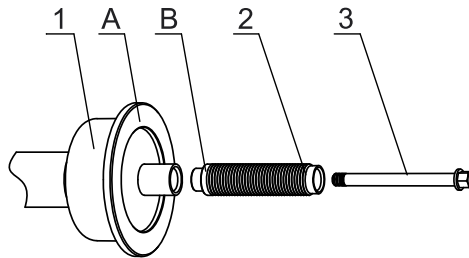

Figure 4.3 – Shaft assembling
4.2.3 Assemble shaft in accordance with Figure 4.3. Clean the machine spindle hole and shaft from preserving grease by rag moistened in petrol or white spirit. In accordance with Figure 4.3 set shaft 2 on machine spindle 1 fastening it by bolt 3 with torque 40 N·m, using adapter six-sided if necessary. During removal of the shaft it's allowed to tip slightly on the surface "B" (on horizontal surface) by a rubber or wooden hammer. Do not apply force along the spindle axis (for example, during transportation, during wheel mounting and dismounting)!